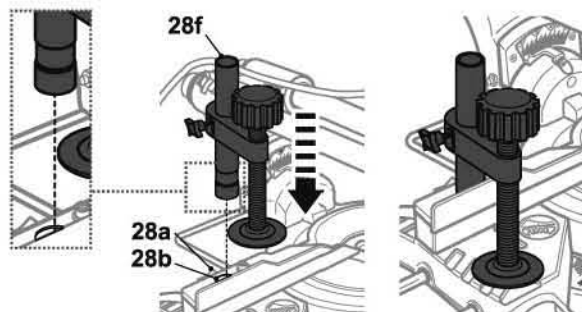

Fig. 8
**NOTE:** Attach the screw clamp (28) on the right side only if the bevel angle and the mitre angle is adjusted so that the motor housing does not interfere with the clamp.
2. Insert the height adjustment pillar (28f) into the holder (28b) (Fig. 8).